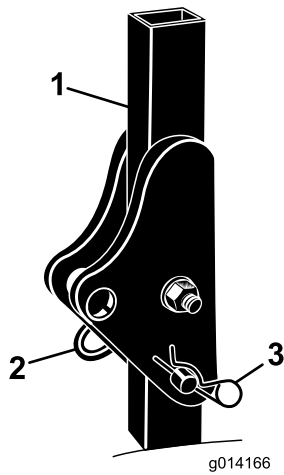

Figure 5
1. Remove the 2 hairpins and the 2 pins from the roll bar (Figure 5).
2. Raise the roll bar to the upright position and secure it with the 2 pins and 2 hairpins (Figure 5).